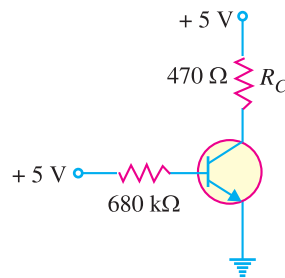

Fig. 8.71
10. Draw the d.c. load line for Fig. 8.71. [The end points of d.c. load line are **10.6 mA** and **5V**]
11. If the collector resistance R_C in Fig. 8.71 is increased to $1\text{ k}\Omega$, what happens to the d.c. load line? [The end points of d.c. load line are now **5 mA** and **5 V**]